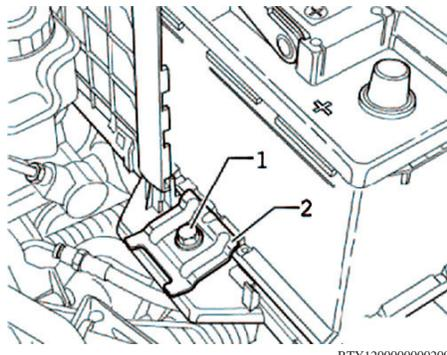

Fig. 4 Battery mounting removal
9. Remove battery mounting bolt (1), **Fig. 4**.
10. Remove battery retaining bracket (2), **Fig. 4**.
2. Install battery retaining bracket (2), **Fig. 4**.
3. Install battery mounting bolt (1), and **torque** to 14 ft. lbs, **Fig. 4**.